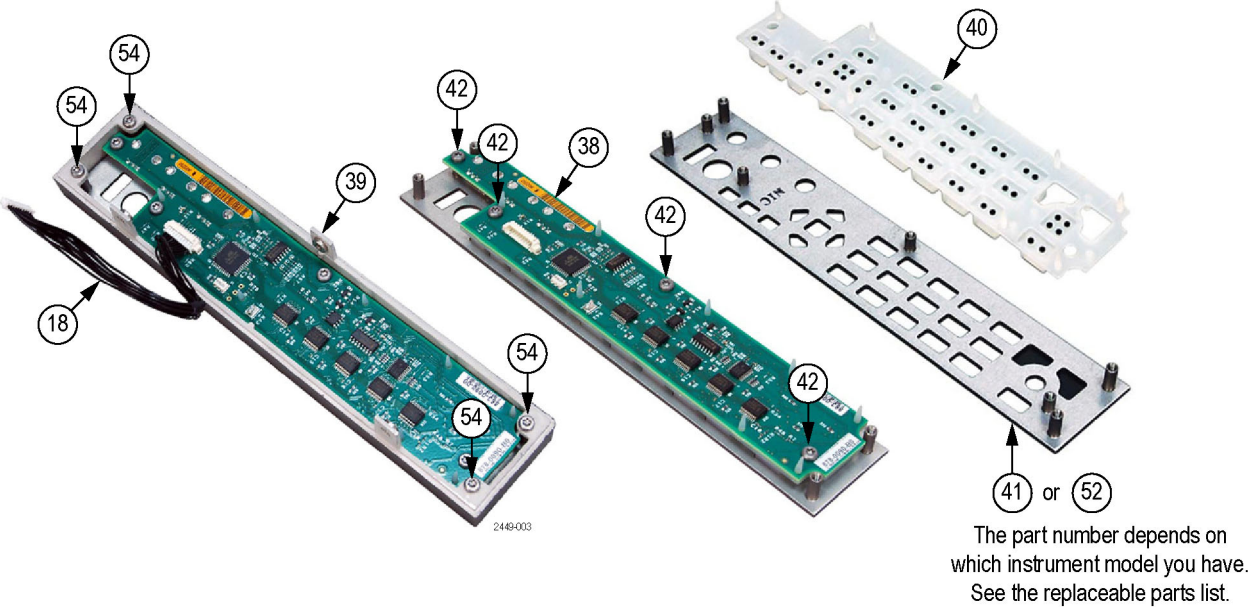

Figure 15: Front Panel board removal
**Front Panel board** Remove the Front Panel board by performing the following procedure. (See Figure 15.)